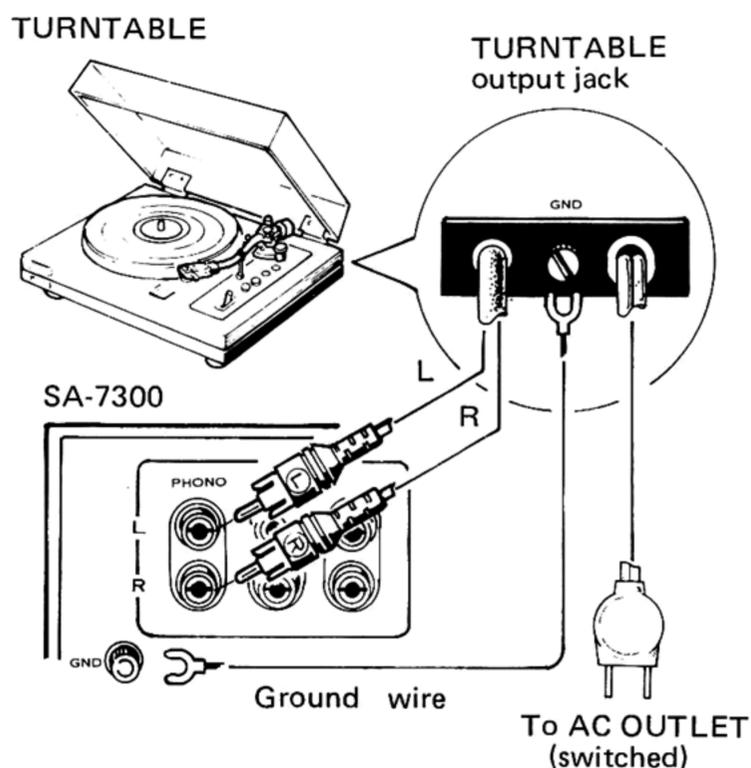

Fig. 2
If the turntable is equipped with a moving magnet (MM) type cartridge, its output cord can be connected directly to the L & R PHONO jacks of the SA-7300. Also connect the ground terminal or wire of the turntable to the GND terminal (Fig. 2).